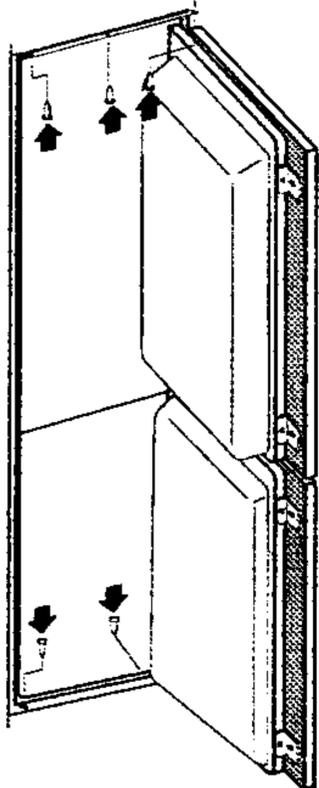

Fig. 5
- ❖ Fix the appliance into the kitchen unit. On the upper side, fix the three screws through the rail (A 4 x 12) and on the bottom side with two screws (A 4 x 16), through the lower hinges. Drill holes,  $\varnothing$  3 x 5 (Fig. 5).